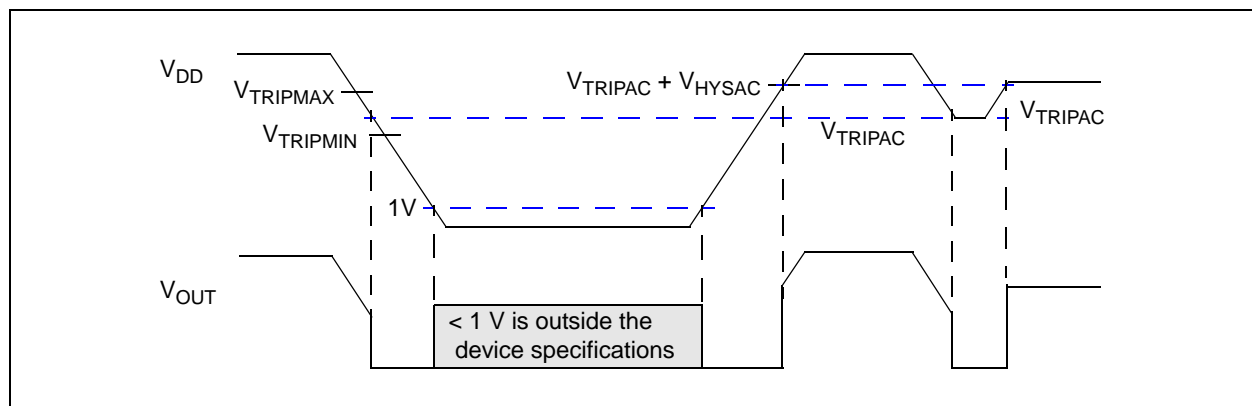

**FIGURE 4-1:** Typical Application Circuit.
**Note:** Unless otherwise indicated, all limits are specified for  $V_{DD} = 1V$  to  $5.5V$ ,  $R_{PU} = 100\text{ k}\Omega$  (only **MCP111**; see **Figure 4-1**),  $T_A = -40^\circ\text{C}$  to  $+125^\circ\text{C}$ .
**Note:** Unless otherwise indicated, all limits are specified for  $V_{DD} = 1V$  to  $5.5V$ ,  $R_{PU} = 100\text{ k}\Omega$  (only MCP111; see Figure 4-1),  $T_A = -40^\circ\text{C}$  to  $+125^\circ\text{C}$ .
For many of today's microcontroller applications, care must be taken to prevent low-power conditions that can cause many different system problems. The most common causes is a brown-out condition, where the system supply drops below the operating level momentarily. The second most common cause is when a slowly decaying power supply causes the microcontroller to begin executing instructions without sufficient voltage to sustain SRAM, thus producing indeterminate results. Figure 4-1 shows a typical application circuit.
A 0.1  $\mu F$  bypass capacitor, mounted as close as possible to the  $V_{DD}$  pin, provides additional transient immunity (refer to Figure 4-1).